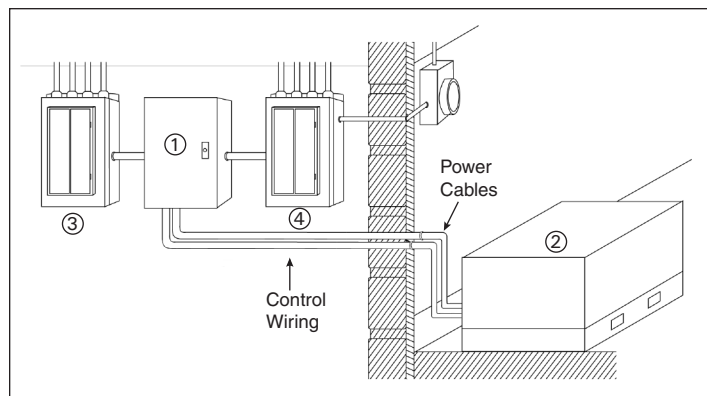

Figure 14. Typical Installation of a Residential ATS
In a typical installation for critical loads (see Figure 14), the ATS (1) and the generator (2) are connected to the power supply. The ATS (1) and emergency distribution panel (3) receive utility power from a dedicated breaker in the utility service panel (4). The ATS and emergency panel receive generator power from the generator (2). Power from the utility feeds the utility panel.